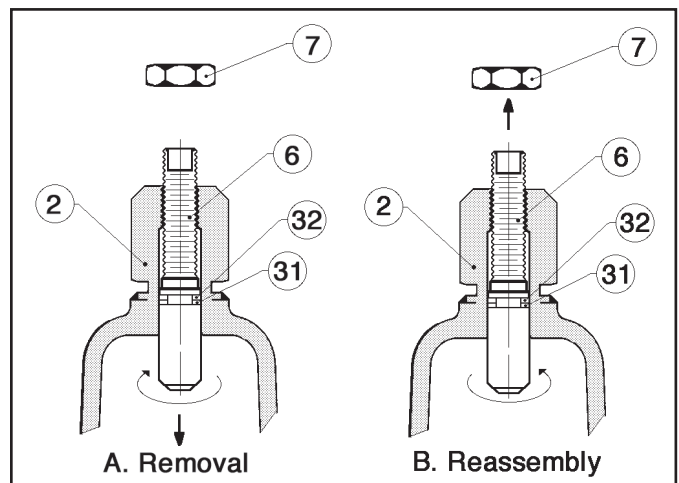

Figure 1: Adjusting screw (6) o-ring inspection.
DO NOT ATTEMPT TO REMOVE ADJUSTING SCREW (6) FROM TOP OF SPRING CHAMBER (2). The adjusting screw (6) is threaded upward from inside the spring chamber (2). The CCW rotation used to relieve range spring (14) tension will come to a stop. At the stopping point, do not apply any torque to adjusting screw (6) or damage may occur and render the unit inoperable. See Figure 1.
1. Securely install the body (1) in a vise with the spring chamber (2) directed upwards.
2. To relieve range spring (14) compression, remove closing cap (28) by turning CCW. Remove lock nut (7) by turning CCW. Turn adjusting screw (6) CCW until range spring (14) compression is relieved. **NOTE: See CAUTION C).**
3. Draw or embed a match mark between body (1) casting, body spacer (24), and spring chamber (2) casting along flanged area.
5. Remove spring chamber (2), range spring (14), spring button (4), pressure plate (3), body spacer (24), diaphragm (12), and o-rings (30).
6. Adjusting screw (6) o-ring inspection:
- a. With locknut (7) and closing cap (28) removed, turn adjusting screw (6) CW as far as possible by turning flats on top end. Carefully reach inside spring chamber (2) and grasp adjusting screw (6) by hand. **NOTE: For 1/2" (DN15) and 3/4" (DN20) size regulators a small piece of plastic tubing with a 3/4" (19 mm) inside diameter may be used to grasp the adjusting screw (6).** Complete adjusting screw (6) removal by rotating CCW. See Figure 1.
- c. Lubricate adjusting screw (6) threads. Carefully reinstall the adjusting screw (6) up into the spring chamber (2) by rotating the adjusting screw (6) CW until top of adjusting screw (6) protrudes from top of spring chamber (2). **NOTE:** Care should be taken when holding and rotating the adjusting screw (6) so the quad ring (31) and backup ring (32) are not inadvertently nicked or torn. Grasp top of adjusting screw (6) and turn CCW until rotation stops (**see CAUTION C**). See Figure 1.
- d. Loosely install lock nut (7) and closing cap (28).
7. Inspect pressure plate (3) for defects due to over-pressurization. Replace if defective.
9. Place first o-ring (30) on body (1) and lubricate with a lightweight multi-purpose grease. Position body spacer (24) on body with match marks aligned. Place pusher plate (11) on body spacer (24) and check for vertical movement. **NOTE:** The vertical movement should be free and unobstructed as the pusher plate (11) is pushed down and the lower piston spring (17) contracts and expands. If movement is not free, go to Subsection C following to inspect the inner trim parts.
10. Place second o-ring (30) on body spacer (24) and lubricate with lightweight multi-purpose grease. Position diaphragm (12) on body spacer (24) inside of o-ring (30).
11. Visually center the pressure plate (3) on diaphragm (12). Place range spring (14) onto retainer hub of pressure plate (3).
12. Place multi-purpose, high temperature grease into depression of spring button (4) where adjusting screw (6) bears. Set spring button (4) onto range spring (14); ensure spring button (4) is laying flat.
13. Using "NEW" studs (34,35) and nuts (9) (**see CAUTION D**), thread a nut onto each stud approximately 1.25" (32 mm). Drop the studs (34,35) with nuts (9) through the holes in spring chamber (2). (This will assist in keeping the spring chamber (2) centered on body (1) and prevent parts from moving during re-assembly).